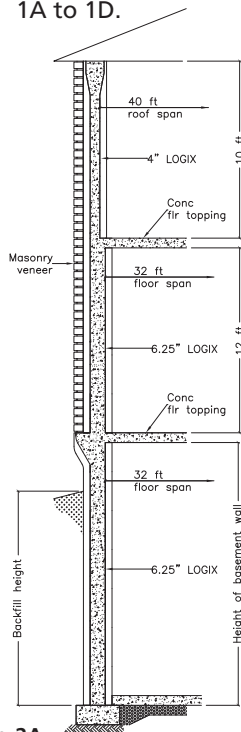

Fig 2A
LOGIX below-grade Tables 1A to 1D, and alternative Helix TSMR (Twisted Steel Micro Rebar) Tables 1A-H to 1D-H, shall be used in conjunction with corresponding Figures 2A to 2D, the notes listed below, and the building limitations noted in the "Reinforcement Tables" and "Helix TSMR Tables - Alternative to Rebar Reinforcement Tables" section, which form the basis of these tables.
3. Table 1A shall be read in conjunction with Fig 2A, and section "Notes for Below-grade Wall Tables."